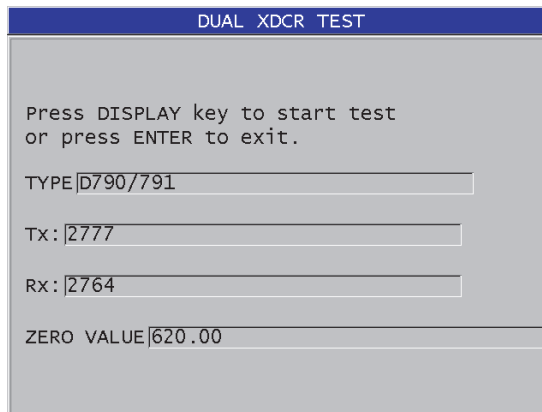

Figure 15-3 The DUAL XDCR TEST screen
- 7. When **DUAL XDCR TEST** is selected, in the **DUAL XDCR TEST** screen (see Figure 15-3 on page 291):